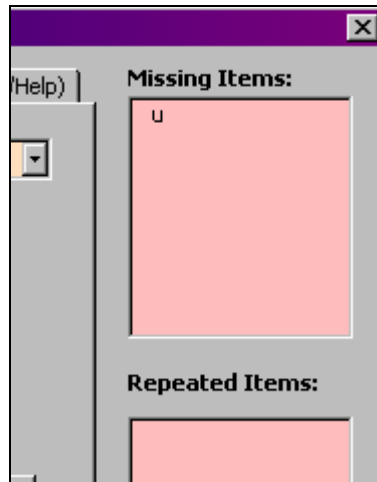

Figure 11. Error Windows.
8. Because we forgot to include the brackets for the variable u earlier, the program is assuming that u was a parameter. An error window as shown in Figure 11 should pop up on the right to list missing (undefined) and repeated variables and parameters.